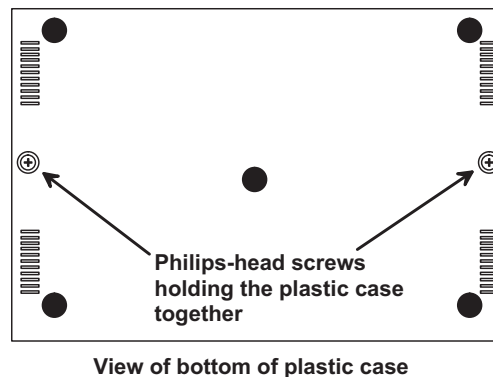

Figure 21- Remove the philips-head screws
3. Remove the two philips-head screws from the underside of the USB Wizard and set the USB Wizard on a firm and flat surface, bottom down (see Fig. 21).